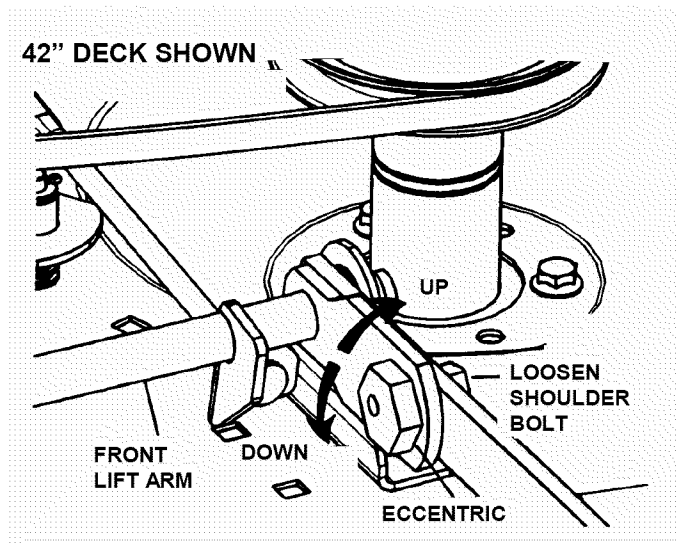

FIGURE 4.8
- g. Turn eccentric "UP" or "DOWN" as required until blade tips are within 1/8" of the same distance from the floor. See Figure 4.8.